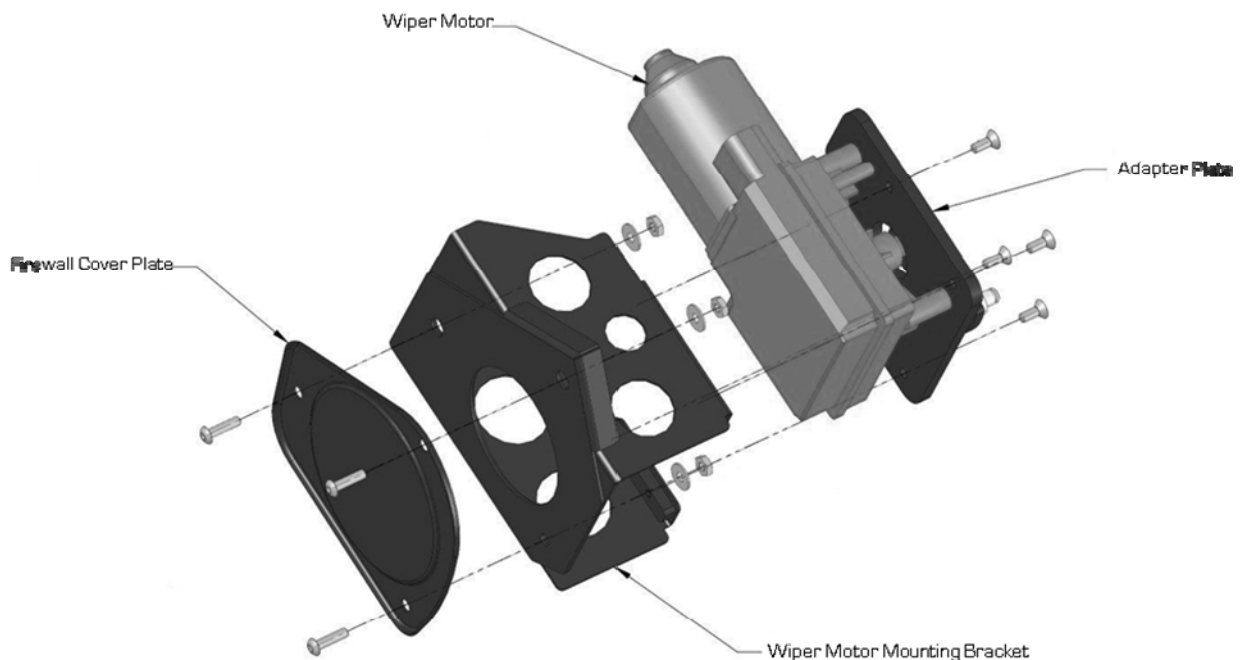

Figure 1. Cover Plate, Mounting bracket, Wiper Motor, and Adapter Plate assembly
6. Mount the wiper motor mounting bracket to the firewall by attaching it to the protruding cover plate screws from step 4 using the supplied washers and 10-24 Nylok nuts. See *Figure 1*.